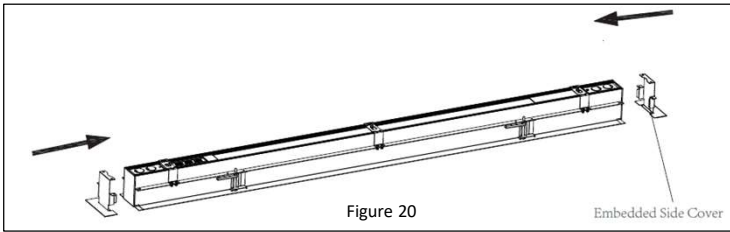

Figure 20
3. Install the side covers. *See Figure 20.*